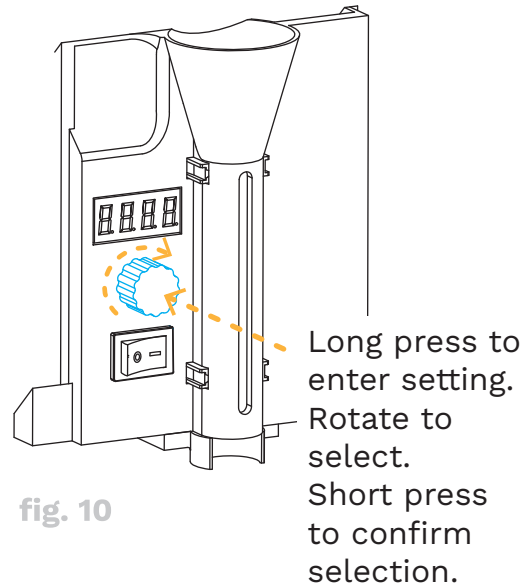

fig. 10
Long press the knob to enter count setup (COUN). By rotating the knob you can choose (0) or a number (25 - 9900). Confirm with short press. (fig. 10)